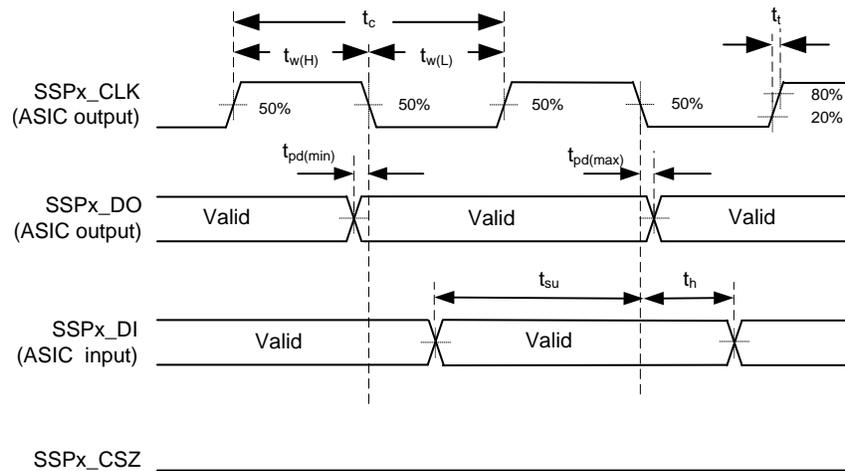
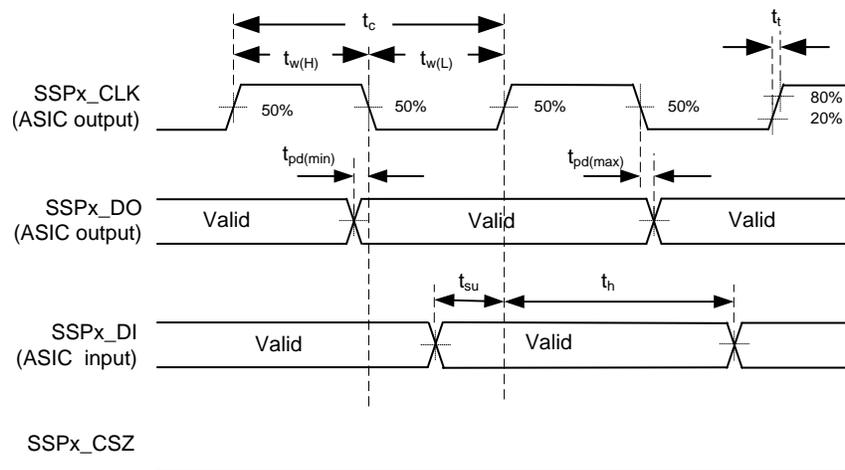

Figure 10. Synchronous Serial Port Interface – Master (Modes 0/3)
Figure 11. Synchronous Serial Port Interface – Slave (Modes 0/3)
(1) The SSP is configured into four different modes of operation by the controller firmware. These modes are shown in Table 3, Figure 10, and Figure 11.
(2) Modes 0 and 3
(3) Modes 1 and 2